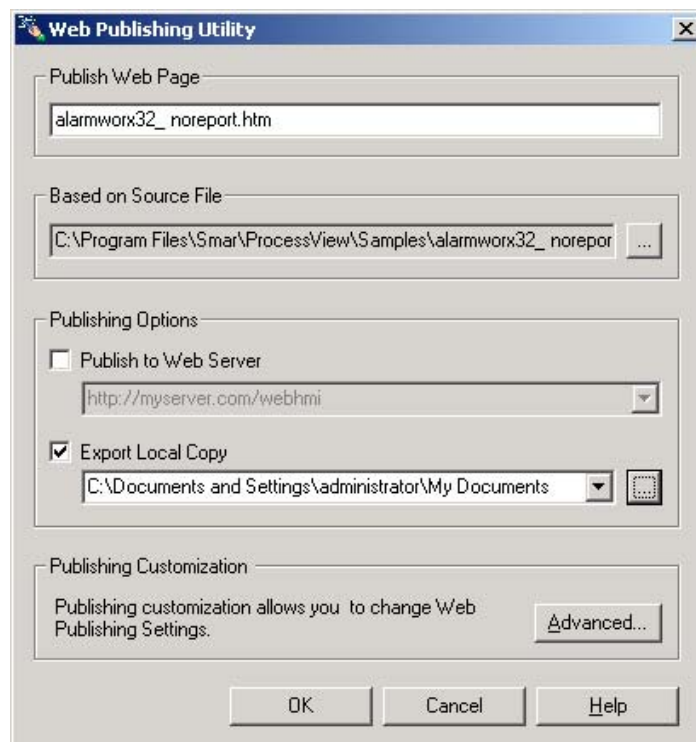

Figure 4.7. Export Local Copy Pathway Shown in the Wizard
4. The local directory pathway you selected appears in the **Export Local Copy** field of the Web Publishing Wizard, as shown in **Figure 4.7**.